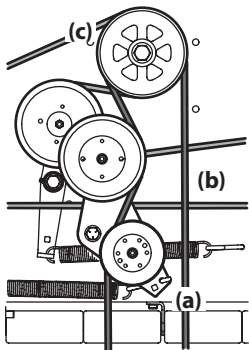

Figure 48
3. Using a 1/2" drive in the idler pulley bracket (a), turn the wrench towards the right of the mower and slide the PTO belt (b) off the PTO pulley (c). See Figure 48.